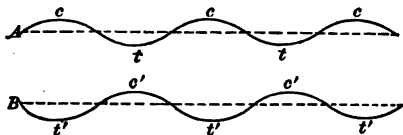

FIG. 368. — Two waves of same period but opposite phase.
**398. Explanation of beats.** To show how two sound waves can combine to produce no sound, let *A* in figure 368 represent a sound wave, and *B* another wave of exactly the same period, but *opposite in phase*; that is, just a half wave length behind the first. If the two impulses, which would